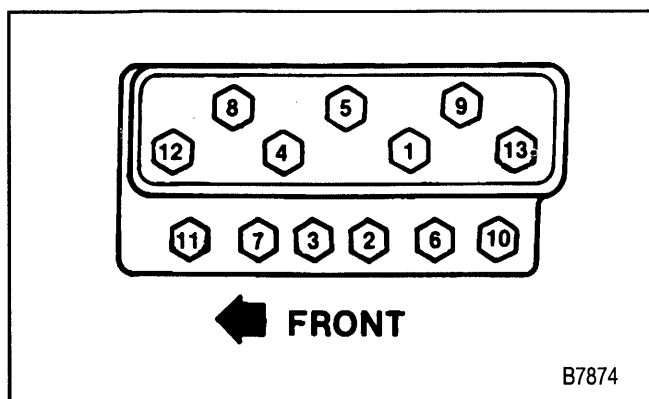

Figure 19—Cylinder Head Bolt Tightening Sequence
Install or Connect (Figure 19)
- Cylinder head bolts in three steps using the sequence shown in figure 19.